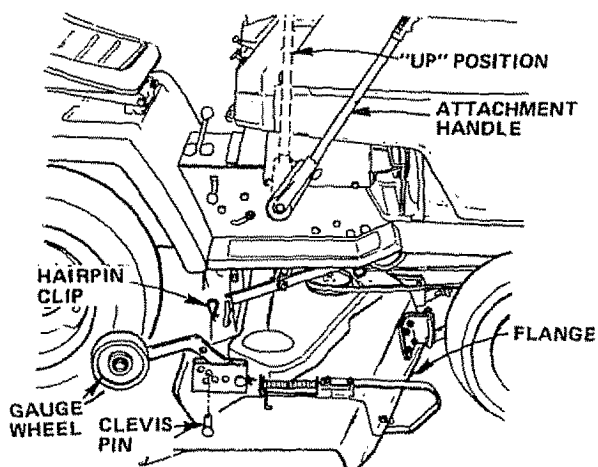

FIGURE 17
3. Move Attachment Handle to full "UP" position (Fig. 17).
Move Attachment Handle to full "UP" position (Fig. 17). After leveling side to side, measure R.H. Flanges at FRONT AND REAR OF MOWER. The R.H. Front Flange should measure 3/4" lower than the R.H. Rear Flange (Fig. 19). If adjustment is required, follow procedure below.
3. With mower deck at desired height, set Gauge Wheels (Fig. 17) to lowest position without touching the ground.
Use Adjustment Handle to set mower at the approximate cutting height you need. Use Clevis Pins (Fig. 17) to set gauge wheels at lowest point without touching the ground.